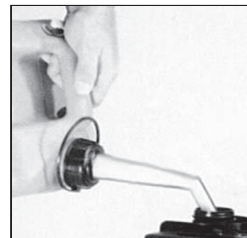

Figure 1
1. Add fresh high quality unleaded gasoline—Figure 1.